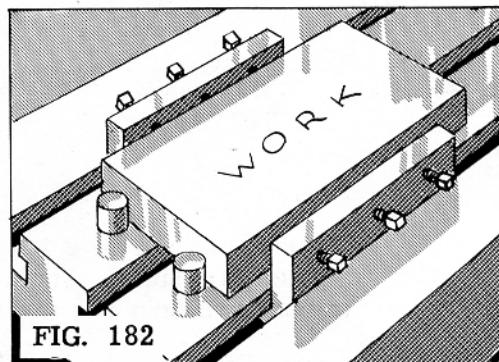

FIG. 182
- e. Note that the work can be held between individual stops or by those arranged in sets. The screws may be parallel with the surface of the table instead of set at an angle (Fig. 182). To compensate for different widths of work, strips of various widths can be used with any of the stops and slots.